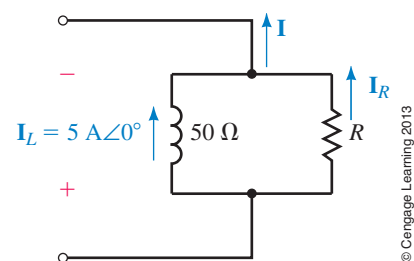

FIGURE 18-111
43. Suppose that the circuit of Figure 18-111 has a current I with a magnitude of 8 A: